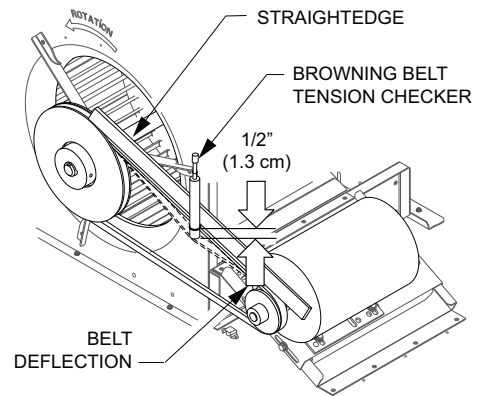

Fig. 6 — Checking Blower Motor Belt Tension
Use the following steps to adjust the V-belt tension. See Fig. 6.
5. Make sure the fan shaft and motor shaft are parallel before tightening the motor mount nuts. See Fig. 6.
6. Check the alignment of the pulleys, adjust if necessary. See Fig. 6.
4. Recheck the belt tension. See Fig. 6.